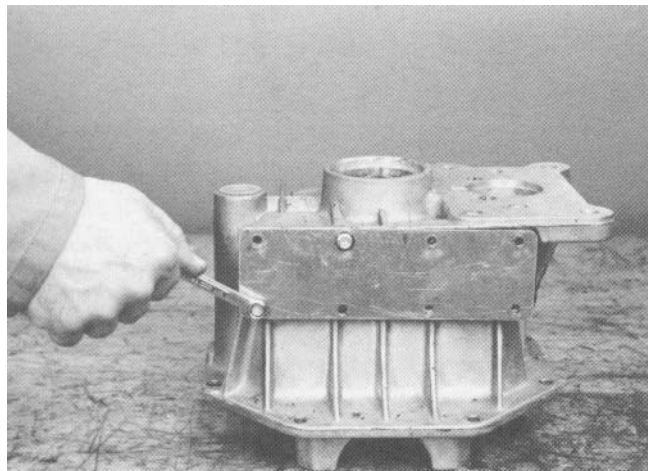

Figure 31
10. Remove the eight side cover capscrews. Remove the side cover from the carrier assembly (Fig. 31). Clean the gasket material from the mating surfaces before reassembly.